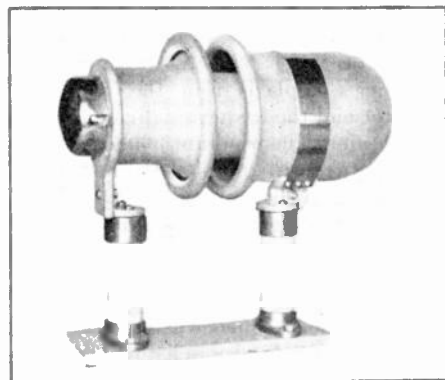

FIG. 6. E. F. J. NEUTRALIZING CONDENSER
**Neutralizing Condenser:** Two new neutralizing condensers, Fig. 6, are offered by